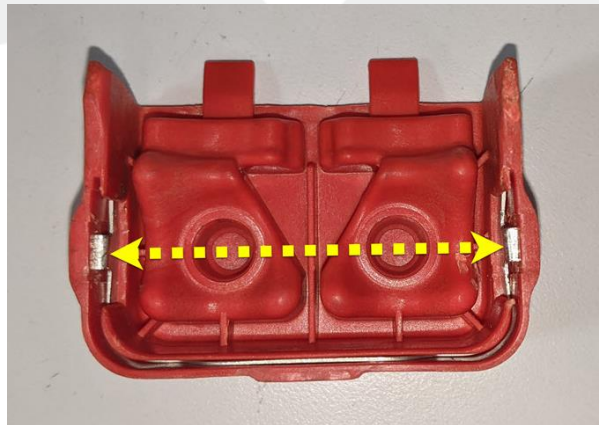

Figure 8
15. Using digital calipers, measure the distance between the electrical terminals on the underside of the charge port busbar safety cap (Figure 8).